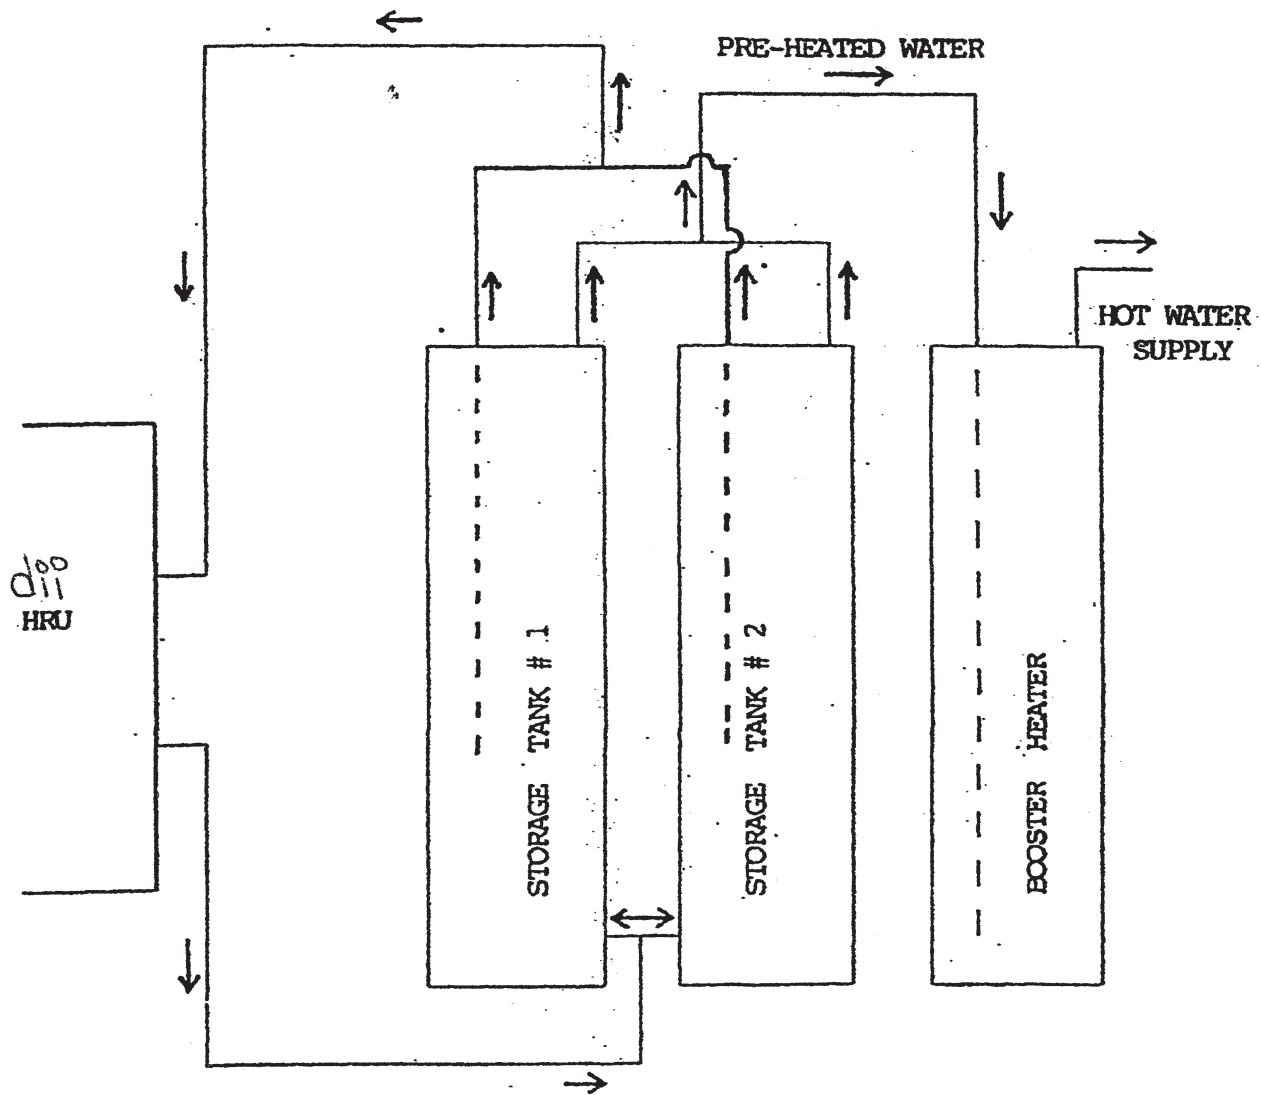

Figure W-105
**MULTIPLE TANKS, SERIES:** It is common to use a storage tank (s) to store water preheated by the HRU. The preheated water is then supplied to the booster, or final heater. The piping should feed the hottest water from the preheat tank (hot water supply port) as the supply water (cold port) to the final/booster heater. It may also be desirable to install a bypass for the cold water supply so that the storage tank(s) can be isolated, if desired. (Figure W-105)